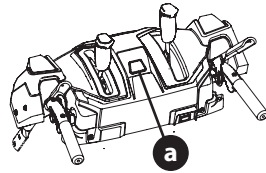

Figure 75
- 1. Cordless Battery Start Button:** The cordless battery start button (a) is located in the center of the handle panel. After adjusting the engine controls as necessary, pressing the cordless battery start button engages the engine's electric starter (Figure 75). Refer to the Engine Operator's Manual for more information on how to use the engine controls.